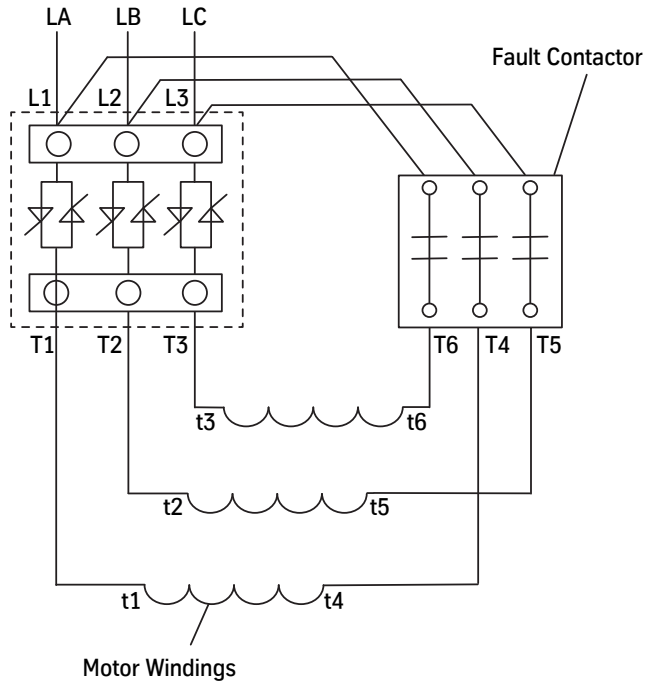

Figure 7 - Wiring Diagram
9. Remove the wires from L1-L3 and T1-T3. See Figure 7 on page 30.
15. Reconnect L1-L3 and T1-T3. See Figure 7 on page 30.